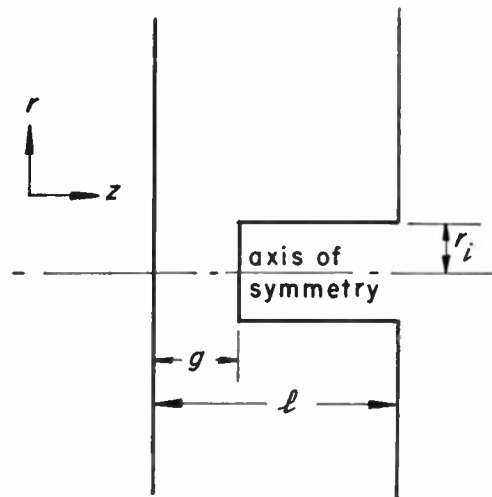

Fig. 2—Static system analogous to re-entrant cavity.
A knowledge of the field distribution in an appropriate static system can be helpful in solving the dynamic problem. This static system (Fig. 2) has the same geometry as the cavity under consideration except that the radial transmission line is not shorted but, rather, is extended to infinity. The equations (1) can be made to apply to this case by taking $\lambda \rightarrow \infty$ so that $\beta \rightarrow 0$; one has then for $r \leq r_i$: